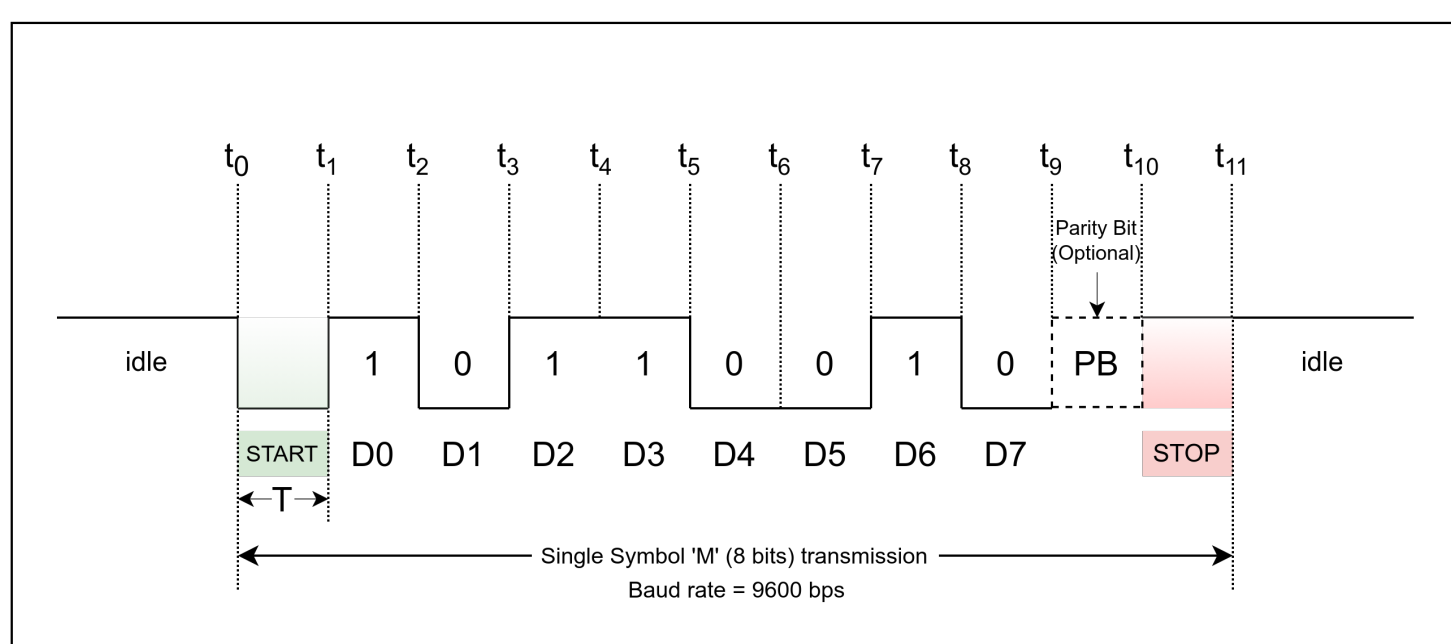

Figure 1. The UART frame.
Sending 'M' (0x4D, 01001101 in binary) via UART at 9600 bps includes a start bit (0), data bits (LSB first: 10110010), and a stop bit (1). Each bit lasts 104.17 μ s, making the total frame duration 1041.70 μ s, as shown in **Figure 1**.